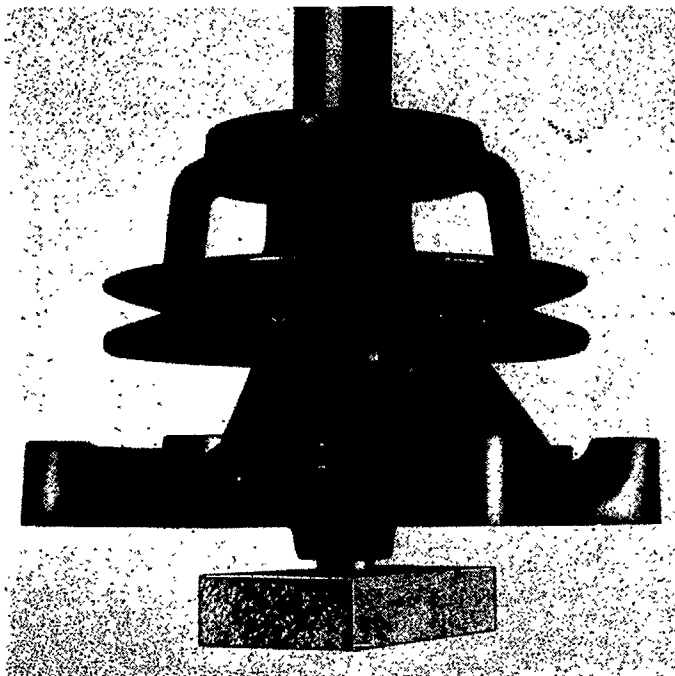
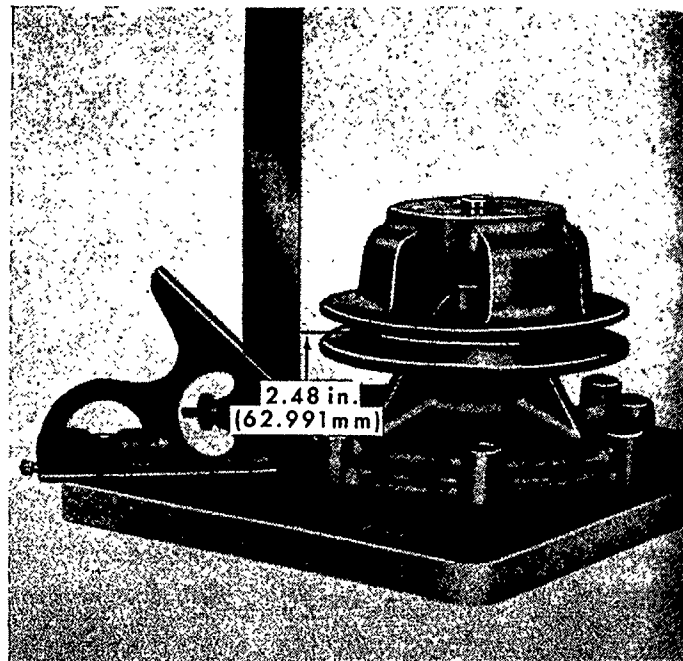

Figure 89
Figure 90
5. Support the shaft (not the pump housing) on a block of wood and press the pulley onto the shaft, Figure 89. Press the pulley on to the dimension shown in Figure 90. The measurement is made from the rear face of the front cover of the pump, to the centre of the V-groove of the pulley. After installation, be sure the pulley runs true on the shaft.